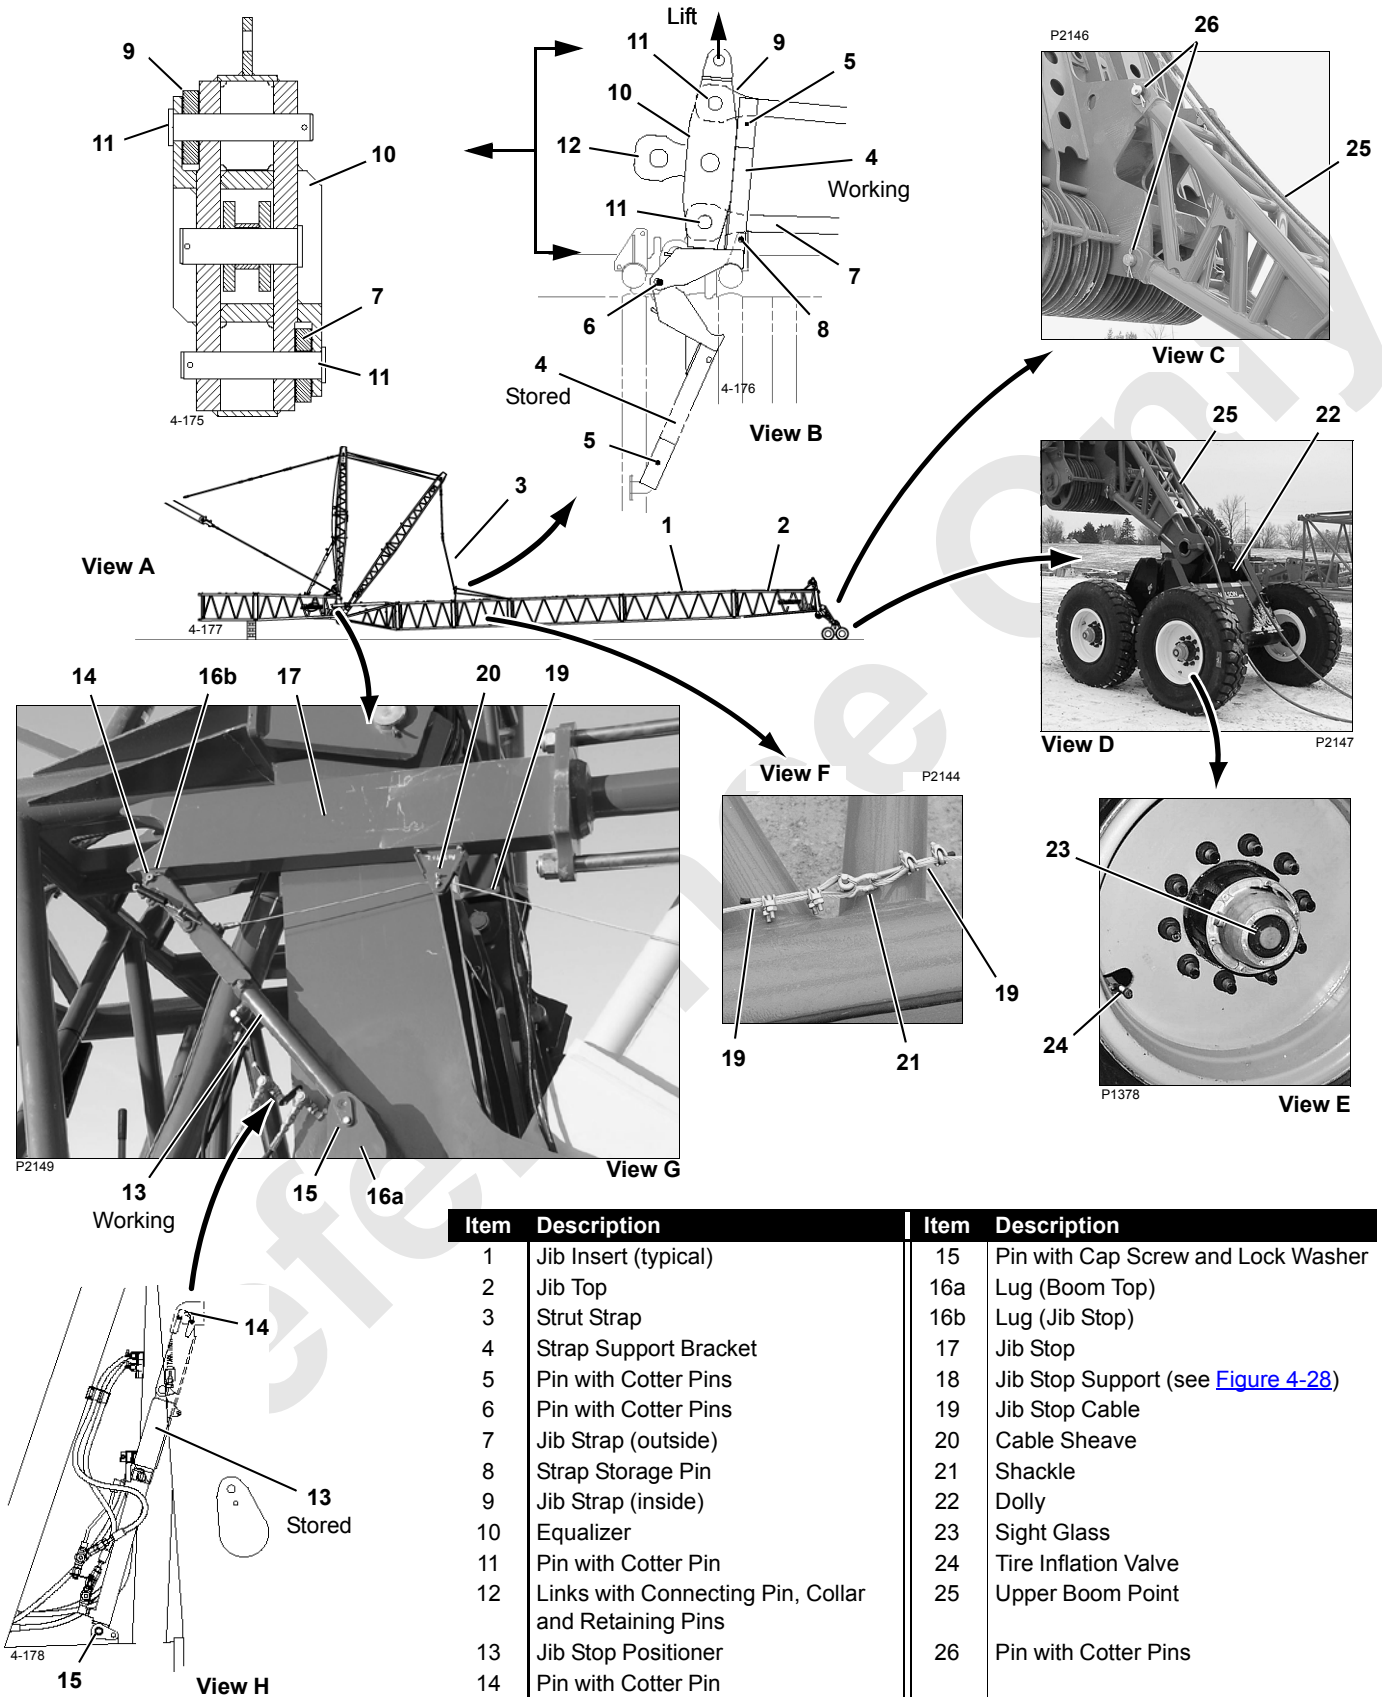

FIGURE 4-29
See Figure 4-29, View B for the following procedure.
See Figure 4-29 for the following procedure.
See Figure 4-29 for steps d - h
2. Route cable (19, Figure 4-29, View G) through cable sheaves (20) on jib stop and in boom butt and pin cable to jib stop.
See Figure 4-29 for the following procedure